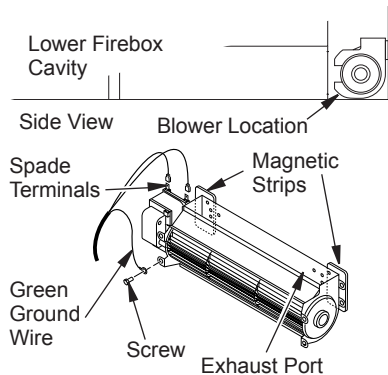

Figure 26 - Blower Model BK
1. Attach the power cord to the blower motor by firmly pushing the two female terminals at the end of the power cord onto the two spade terminals on the blower motor (see Figure 26).
2. Attach green ground wire from power cord to blower housing using screw provided (see Figure 26). Tighten screws securely.
3. Place the blower against the lower rear wall of the firebox outer wrapper with the exhaust port directed upward. The blower will fit inside the back opening and be held in position against the back wall by the magnets (see Figure 26).